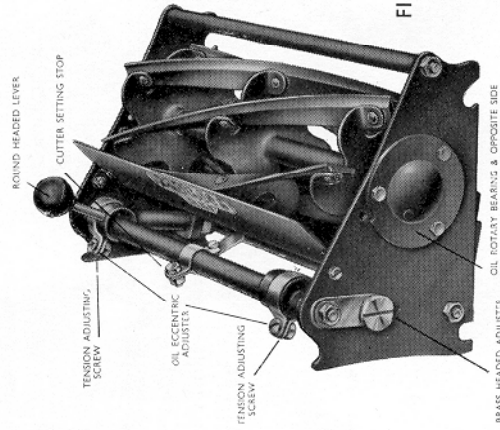

FIG. 3
- (f) Oil rotary cutter bearings. (First remove detachable unit.) See Fig. 3.
- (g) Apply oil around the two steel straps which hold the eccentric adjuster in position. Work adjuster backwards and forwards to assist entry of oil. (See Fig. 3.)
- (1) First unscrew the locking nut of the setting stop screw a couple of turns to release the stop and make it free on the tube. (See Fig. 3.)
- (2) Now set the bottom shear blade parallel to the rotary cutter. (Please refer to the instructions, reference Parallelism of Cutters.)
- (3) Adjust the bottom shear blade to a LIGHT AUDIBLE CONTACT with the rotary cutter by moving the round headed lever in the direction of the rear roller. (See Fig. 3.)
- (4) With the cutters adjusted to a LIGHT AUDIBLE CONTACT, the cutter setting stop should be rotated and positioned so that the bottom end of the stop contacts up against the back of the grass shield. The lock nut and screw should then be tightened securely in position. A light audible contact between the rotary cutter and the shear blade will give the best cutting results. Too harsh a contact will only cause unnecessary wear and make the machine harder to push.
First remove the cutter unit from the chassis, on the right hand side of the unit will be seen a brass headed adjuster which is connected to the top tie bar by a flat link. (See Fig. 3.)
The tension of the round headed lever adjuster for bringing the blades into contact can be adjusted by the screws which secure the two knife frame straps in position. (See Fig. 3.)